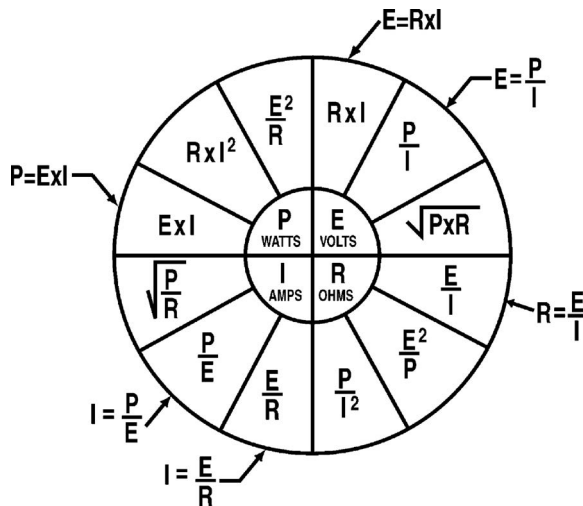
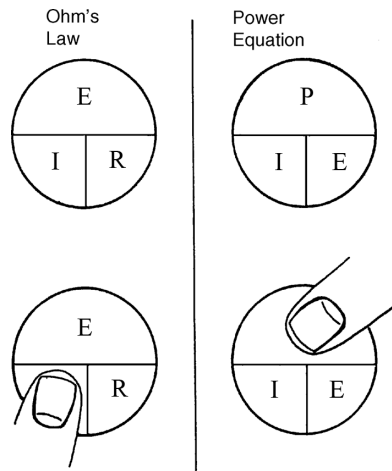

FIGURE 13.1
FIGURE 13.2
Figure 13.1 shows the formulas wheel that gives all the possible relationships between voltage, wattage, amperage, and resistance. Figure 13.2 shows an easy way to remember these relationships.
A simple way to remember the most common equations in Figure 13.1 is to use “magic circles.” On either of the circles shown, cover the symbol you want to find with your finger. The relationship that remains is the formula. For example, to determine amperage (I) from a known resistance (R) and voltage (E), put your finger on the I and read E divided by R . To determine wattage (P) from amperage and voltage, put your finger over the P and read I times E .